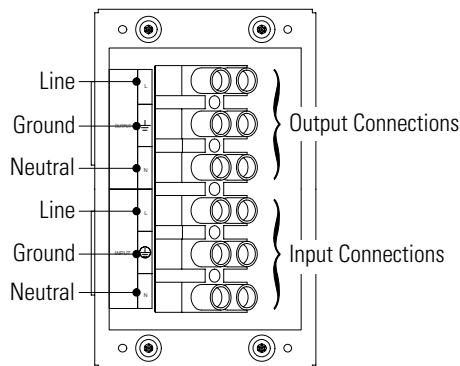

Figure 3. Terminal Block
9. Connect the input and ground wires to the input terminal block (see Figure 3).
12. Connect the output and ground wires to the output terminal block (see Figure 3).